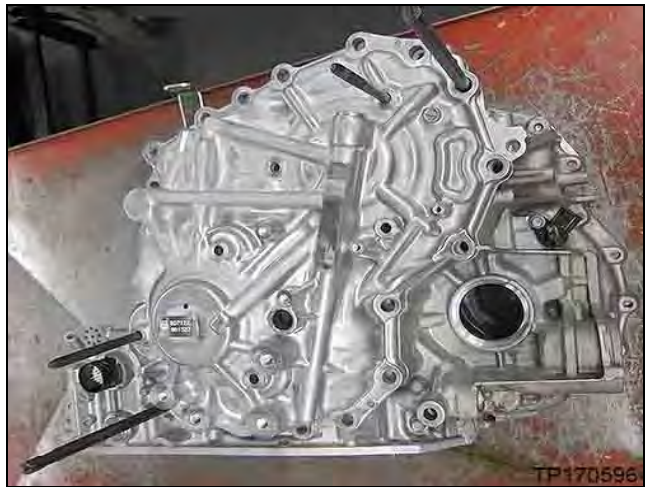

Figure 18F
**NOTE:** Figure 18F shown with Side Cover Alignment Aid removed.